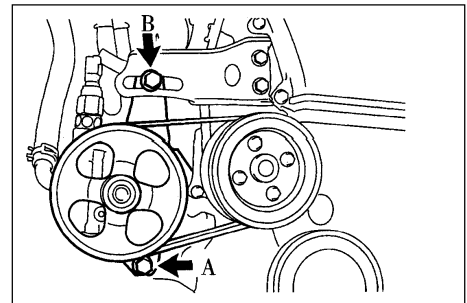

Figure 1-11
5. Adjust the V-belt of the steering pump (see Figure 1-11).